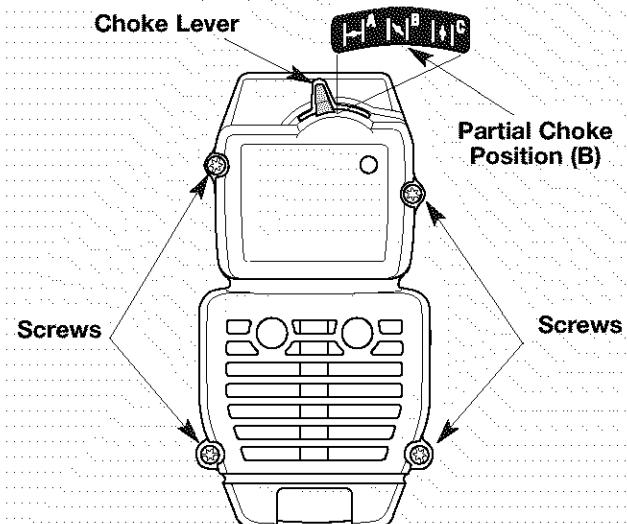

Fig. 13
1. Place the choke lever in the **PARTIAL** choke position (B).
- NOTE:** The choke lever must be in the **PARTIAL** choke position (B) (Fig. 13) to remove the air filter/muffler cover.
2. Remove the four (4) screws securing the air filter/muffler cover (Fig. 13). Use a flat blade or T-20 Torx bit screwdriver.
NOTE: The choke lever must be in the **PARTIAL** choke position (B) (Fig. 13) to install the air filter/muffler cover.
2. Insert the four (4) screws into the holes in the air filter/muffler cover (Fig. 13) and tighten. Do not over tighten.